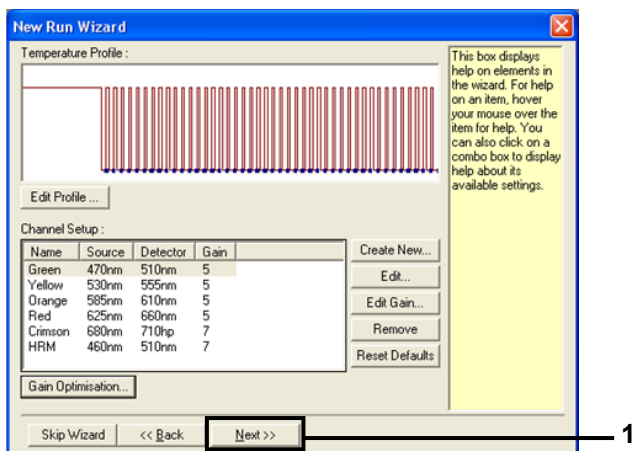

Figure 16. The "New Run Wizard" dialog box and temperature editing screen. (1 = "Next")
15. The next window allows editing of the temperature profile. (No editing is required as the temperature profile was created according to the instructions in "Creating a temperature profile," page 19). Click **Next** (Figure 16).